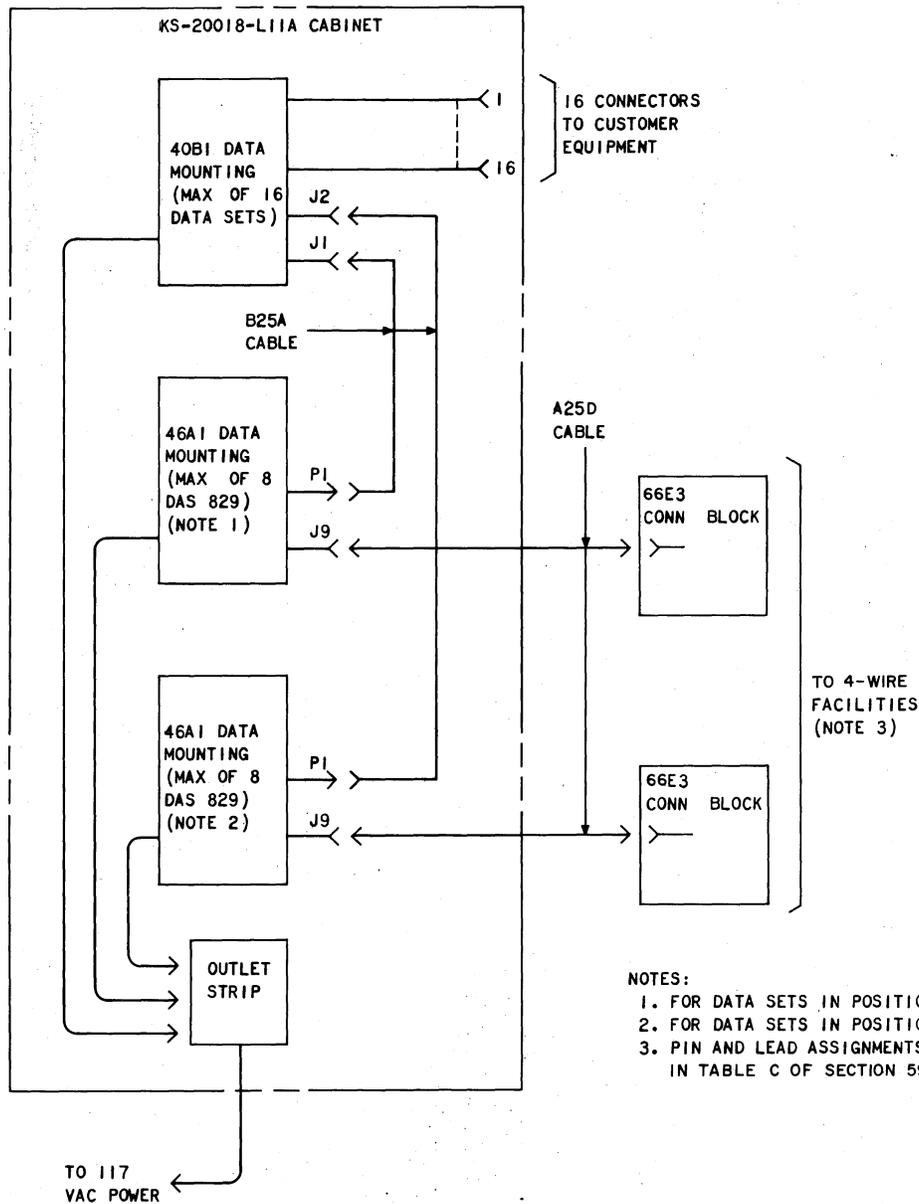

Fig. 7—Data Station Using DAS 829-Type
**3.05** The 40B1 data mounting used with DAS 829-type is shown in Fig. 7. This shows a